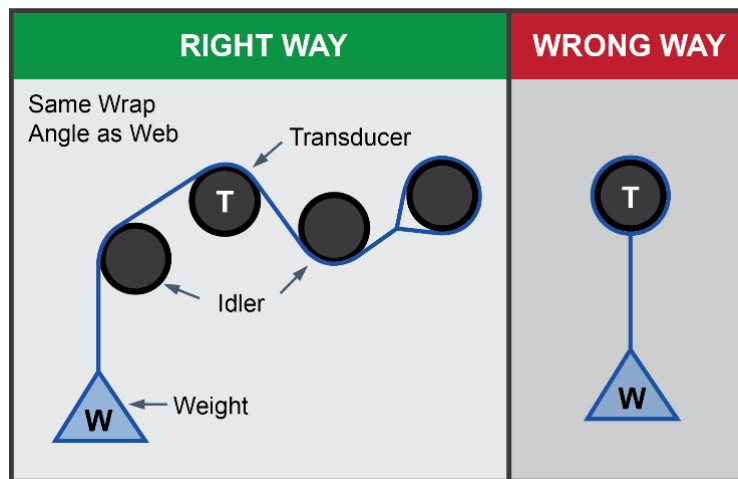

Figure 9 – FILAMENT PATH
1. See Figure 9. Pass the rope over the filament wheel and through the same path as the web follows. Tie the end to the machine at least one idler beyond the Low Tension Transducer. Pass the other end by at least one idler before the Low Tension Transducer. Be sure the rope does not pass over any driven rolls, braked rolls, or dead bars (this will cause inaccurate calibration). Attach the weight to the free end of the rope and let it hang without touching anything.